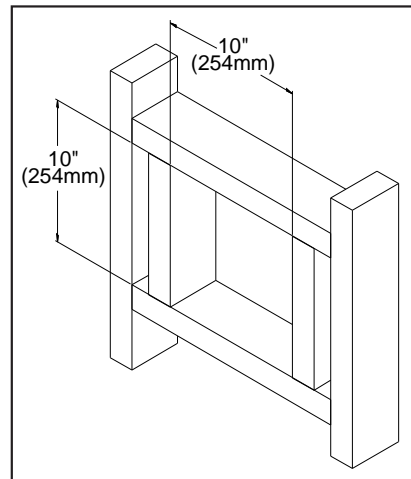

Figure 26: Wall Framing Hole for Horizontal Installation.
4. Frame the hole as shown in Figure 26.
5. Trim the wall thimble to match the wall thickness as necessary. Install the wall thimble and secure it to the inner wall frame using four (4) 1½" wood screws. If a wall is greater than 8" (203mm) in depth, the clearance above the flex must be 4¾" (111mm)
**(a)** Twist-lock procedure: four (4) indentations, located on the female end of the pipes and fittings, are designed to slide straight onto the male ends of adjacent pipes and fittings, by orienting the four pipe indentations so they match and slide into the four entry slots on the male end.
3. With the pipe attached to the stove in the correct location, mark the wall for a 10" (25.4cm) x 10" (25.4 cm) square hole (refer to Figure 26). The center of the square hole should match the center line of the horizontal pipe. Cut and frame the 10" (25.4cm) x 10" (25.4cm) hole in the exterior wall where the vent will be terminated. Refer to Figure 18. If the wall being penetrated is constructed of non-combustible material i.e. masonry or concrete, a 7" (17.8cm) hole is acceptable.